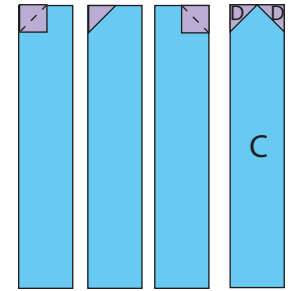

Fig. 6
- Using the flip and sew method, sew (1) 2 1/2" Fabric D square to the upper left corner and the upper right corner of (1) 4 1/2" x 21 1/2" Fabric C strip to make (1) DCD unit (Fig. 6).